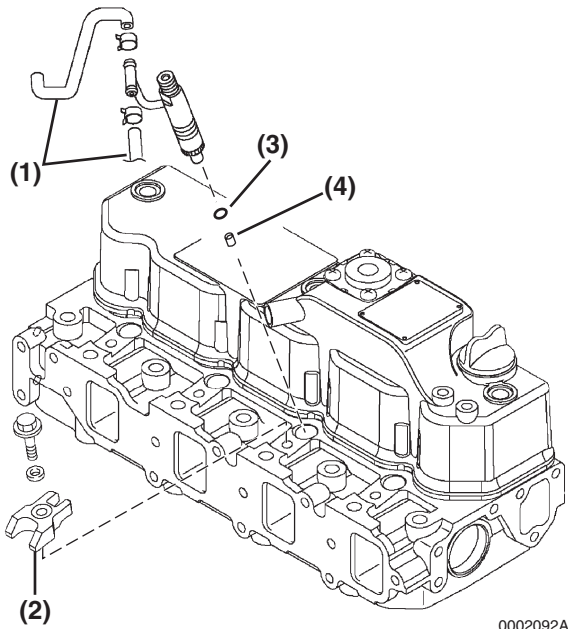

Figure 7-58
1. Reinsert a new nozzle seat (**Figure 7-58, (4)**) and nozzle protector (**Figure 7-58, (3)**) in the cylinder head for each injector.
3. Reinstall the fuel injector retainers (**Figure 7-58, (2)**) and torque the retaining bolts to specification.
4. Reinstall the fuel return hoses (**Figure 7-58, (1)**), one on each side of each injector.